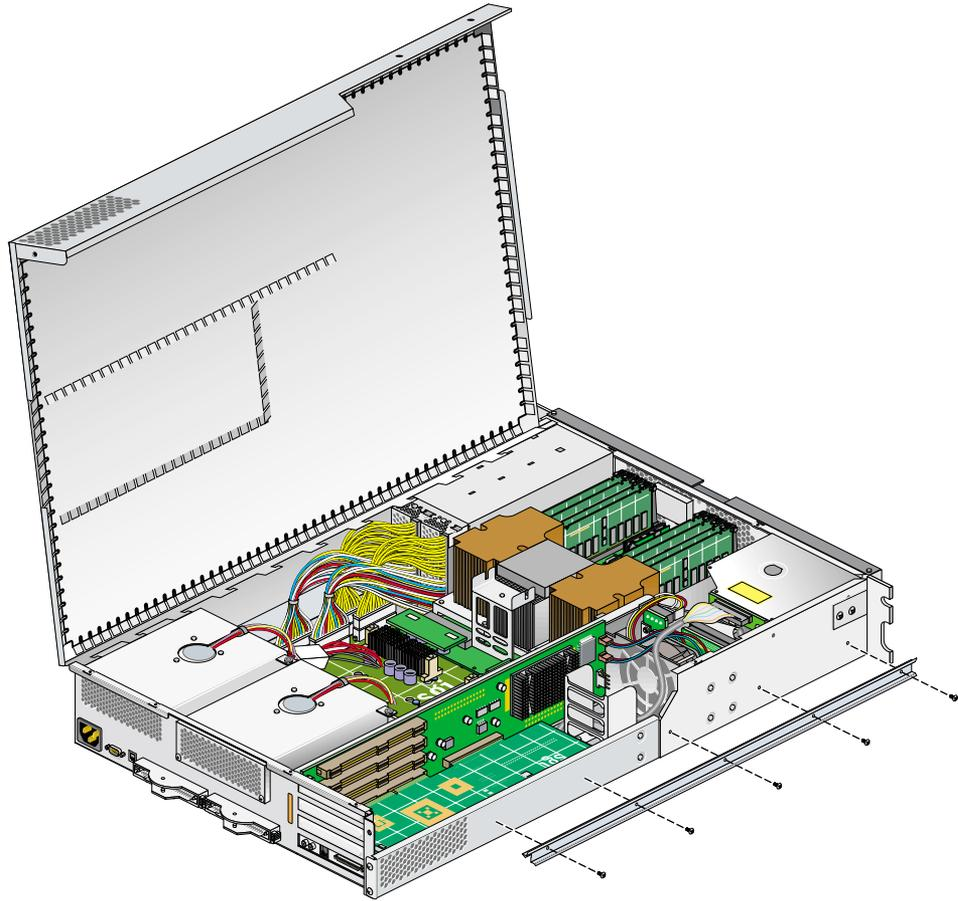

Figure 7-4 Removing an Optional Chassis Rail
8. If you are installing a card in one of the two bottommost card slots, you may also need to remove the optional chassis rail by unscrewing the five Phillips screws, as shown in Figure 7-4. (If you are not installing a card into one of the bottom-most card slots or your module is not slide-rail mounted, proceed to step 9.)